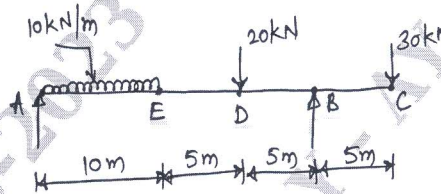

Fig Q5
- 5 Draw the shear force and bending moment diagram for a overhanging beam as shown in Fig Q5, also locate the point of contraflexure.